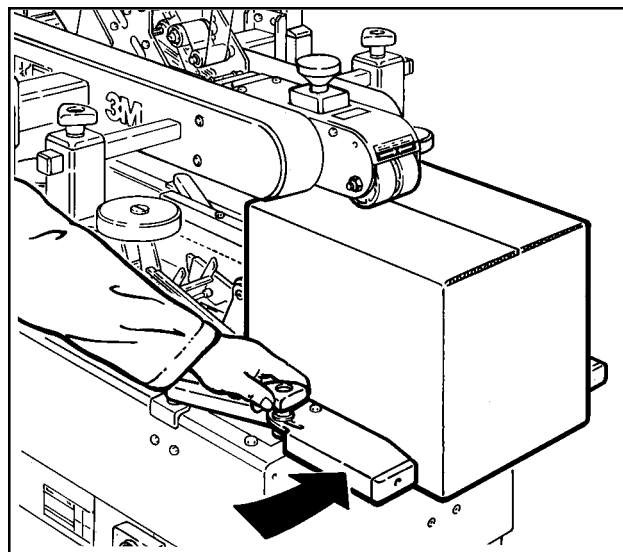

Figure 3-4 – Side Guides
2. ADJUST SIDE GUIDES (Figure 3-4)